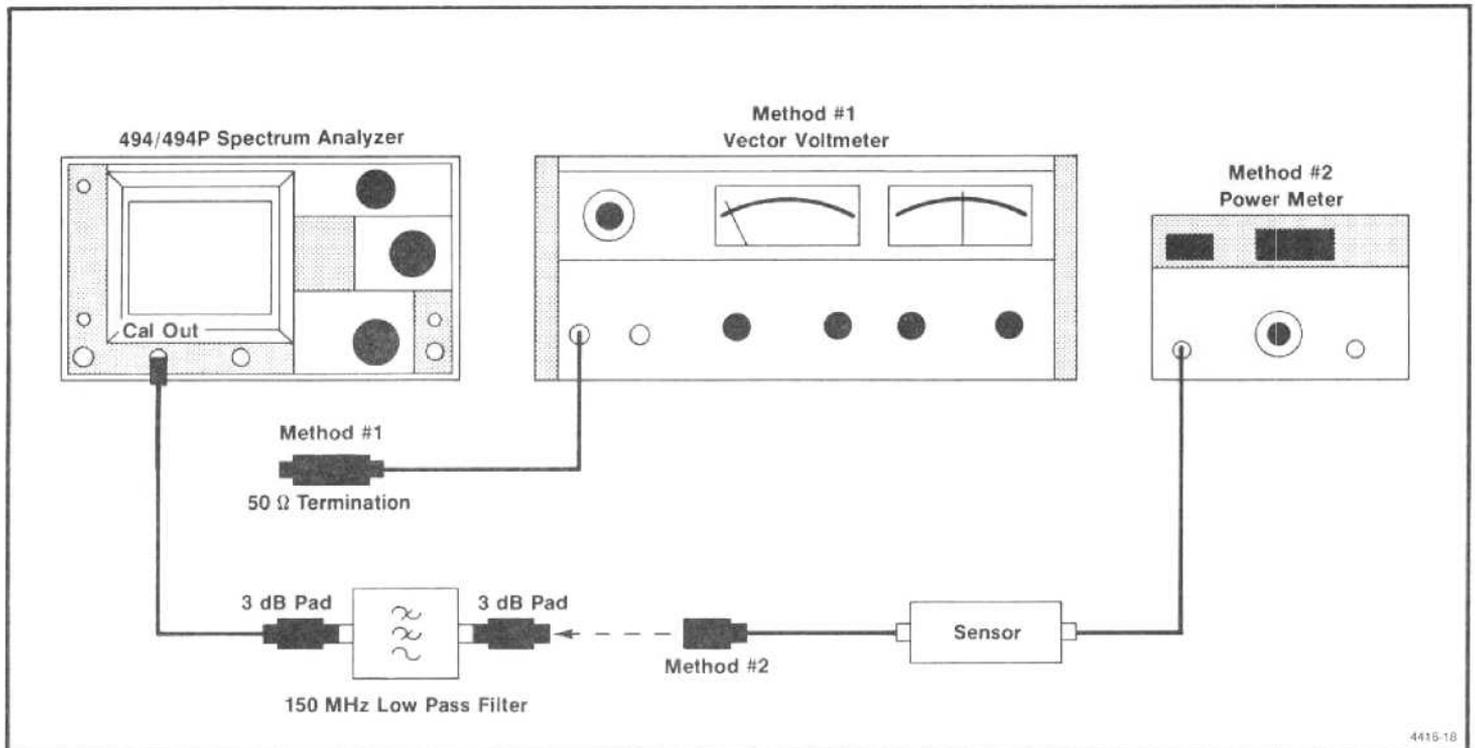

Figure 4-10. Test equipment setup for checking the calibrator output level.
- (1) Test equipment setup is shown in Figure 4-10.
- (2) Terminate the voltmeter probe with a $50\ \Omega$ feed-through termination and then connect the terminated probe to the CAL OUT connector
- (3) Set the vector voltmeter frequency to 100 MHz.
- (4) Check - for an rms reading between 21.11 mV and 22.69 mV. (22.36 mV rms, across $50\ \Omega$, is -20 dBm .)
- (2) Connect the power meter sensor through a low-pass filter ($\geq 40\text{ dB}$, at 200 MHz, to remove harmonics of the fundamental) to the CAL OUT connector.